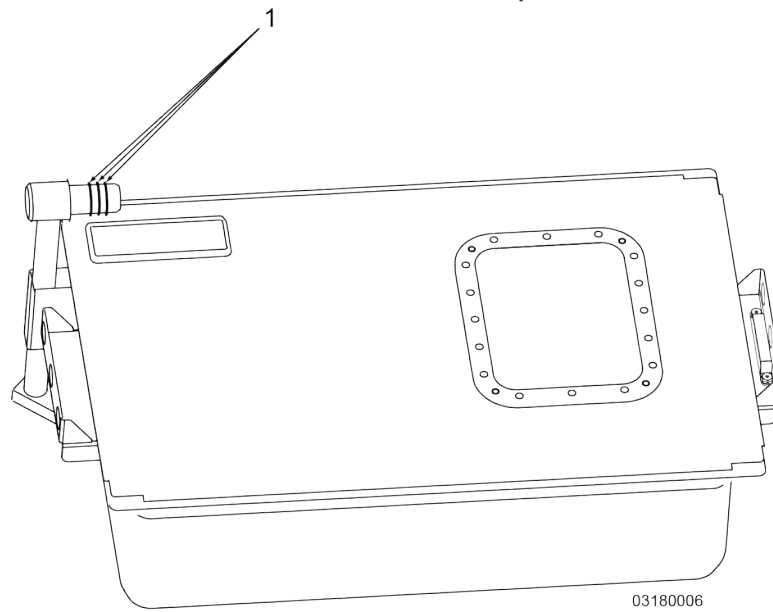

Figure 6-1 Filter Pan O-Rings
- 2) Using a small flat-bladed screwdriver, pry up on o-rings (1) and pull them off of the end of the tube. see Figure 6-1 Filter Pan O-Rings, page 53.
- 3) Place an o-ring (1) into each notch, three total.
- 4) Lubricate o-rings (1) on filter tube with fresh cool oil.